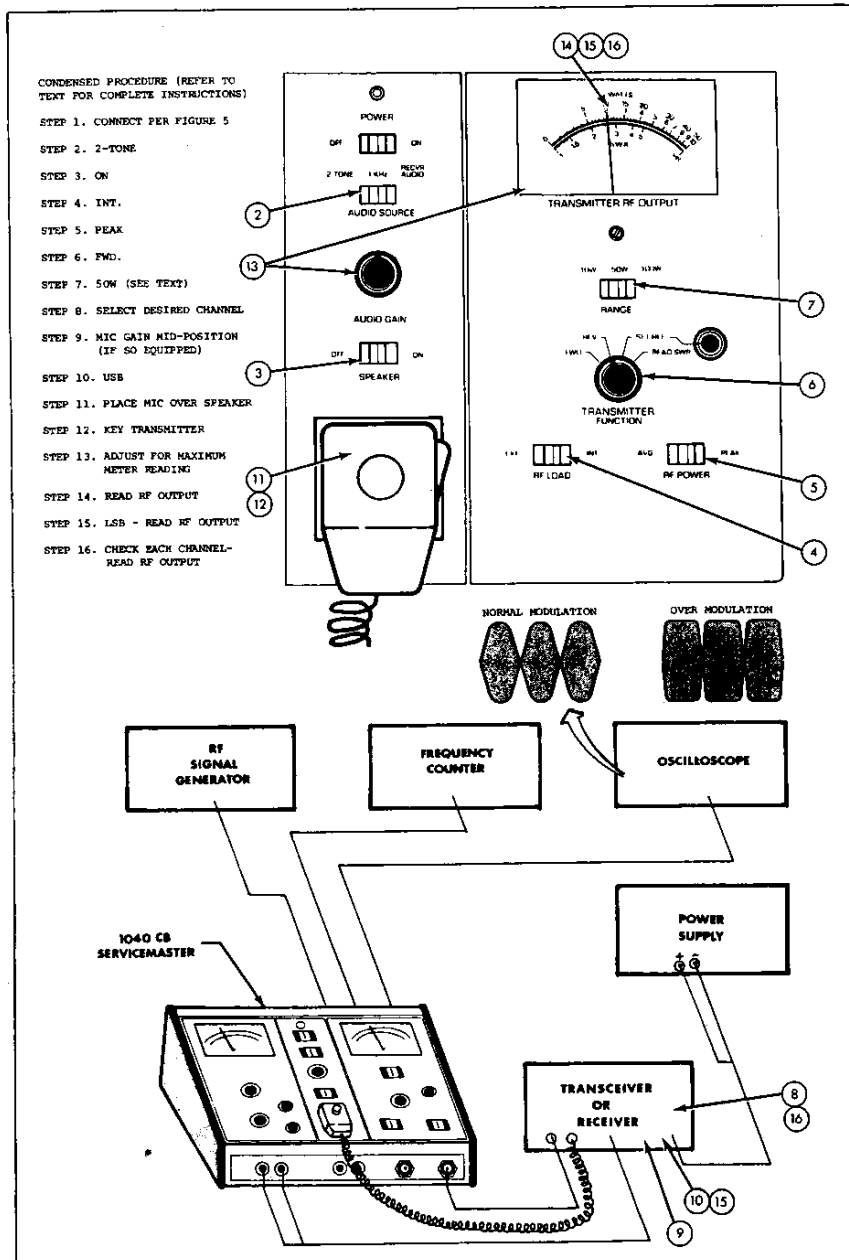

Fig. 14. SSB Transmitter RF Power Check
SSB TRANSMITTER RF POWER CHECK (Refer to Fig. 14)
SSB TRANSMITTER MODULATION CHECK (Refer to Fig. 14)
2. With the AUDIO GAIN control (10) fully counter-clockwise, RF meter (13) should indicate zero output from the transmitter.
3. Place transceiver microphone over ServiceMaster speaker and slowly increase AUDIO GAIN (10).
5. Adjust the oscilloscope for a stable display which should resemble that shown in Fig. 14 (normal modulation).
6. Continue increasing the AUDIO GAIN setting. When maximum power is approached, the amplitude of the waveform ceases to increase and the peaks flatten out. This is the Overmodulation condition of Fig. 14, which is called flat-topping.